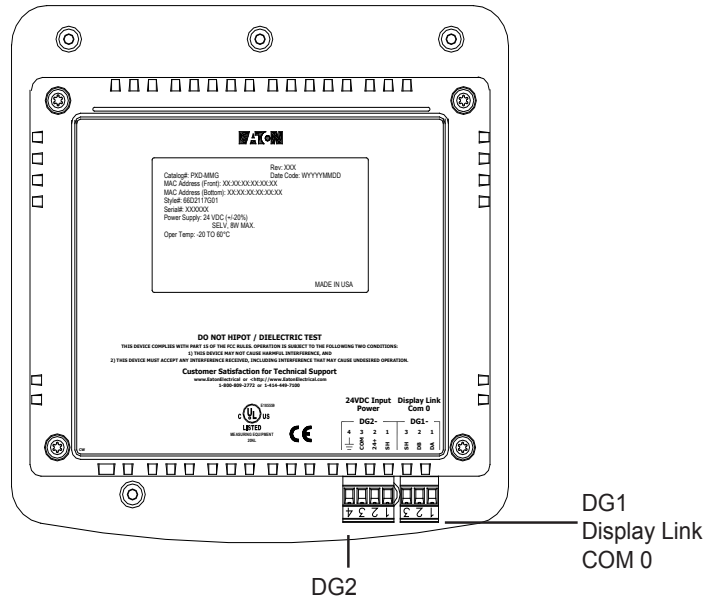
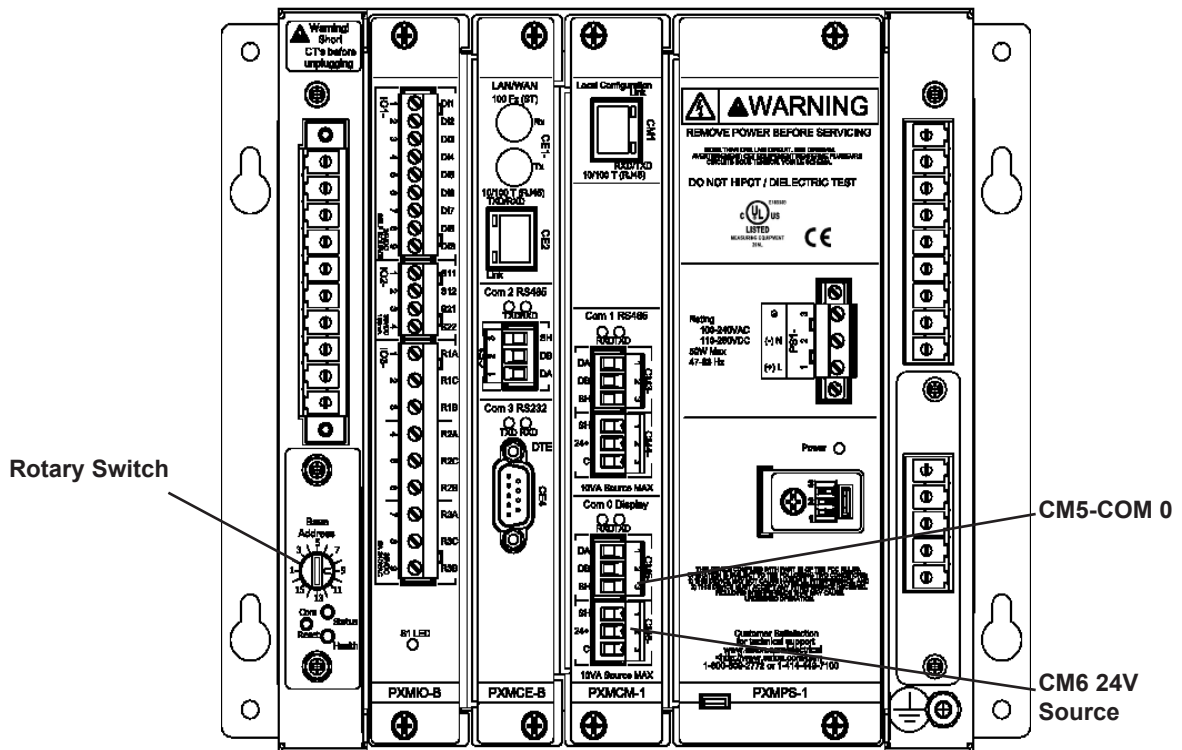

Figure 4: Display Module Connections to Base Unit
Figure 5: Meter Module Connections to Display
A. Using an RS485 cable, connect COM 0 (**Figure 4**) on the back of the Display Module to COM 0 (**Figure 5**) found on the Meter Module (RS485 Comms). See table below and the Cable Specifications Table for wiring.
B. Connect CM6 (**Figure 5**) located on the CM card to DG2 (**Figure 4**) on the Display Module to supply power (24V) to the Display Module. See table below for wiring.
C. Set the Rotary Switch (Figure 5) located on the side of the Meter Module unit to a number 1 through 16.